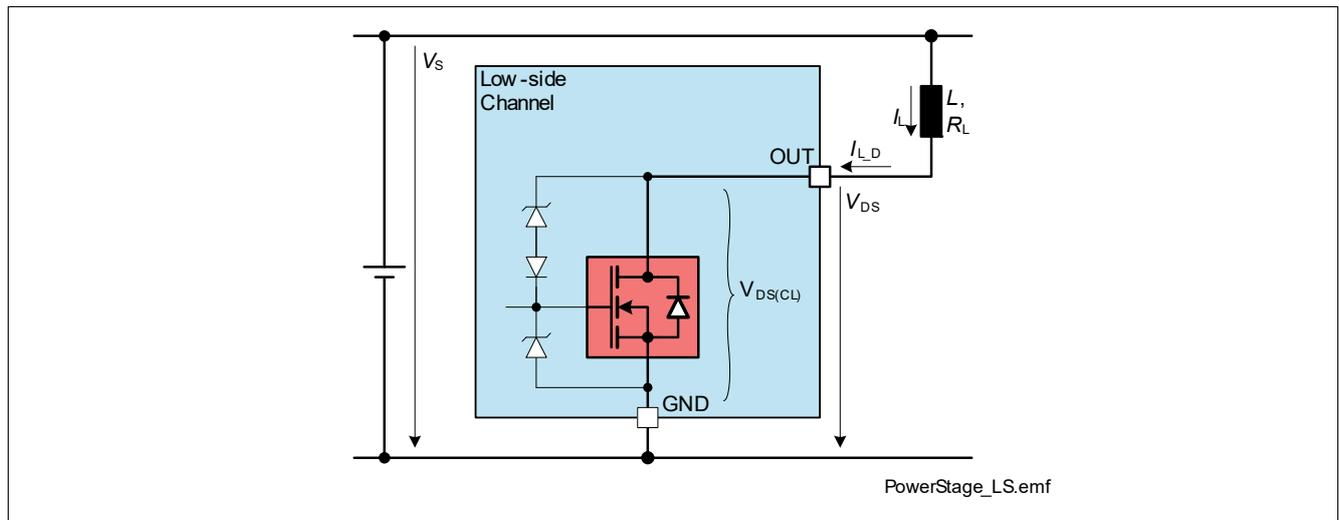

Figure 17 Output Clamp concept
**Figure 17** shows a concept drawing of the implementation. Nevertheless, the maximum allowed load inductance is limited. The clamping structure protects the device in all operative modes (Sleep, Idle, Active, Limp Home).